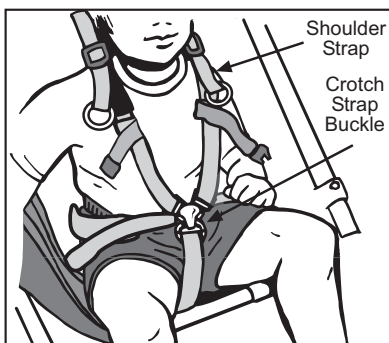

Fig. 18 Place straps over shoulders and secure to buckle.
11. SEAT SAFETY HARNESS: Set parking brake before placing child in stroller. To secure your child in the seat, put one shoulder strap over each shoulder and snap the male buckle into the female receiver on the crotch strap (Fig. 18). Adjust shoulder straps to be snug and secure (Fig. 19). Connect and adjust the sternum strap (red), see Fig. 20.